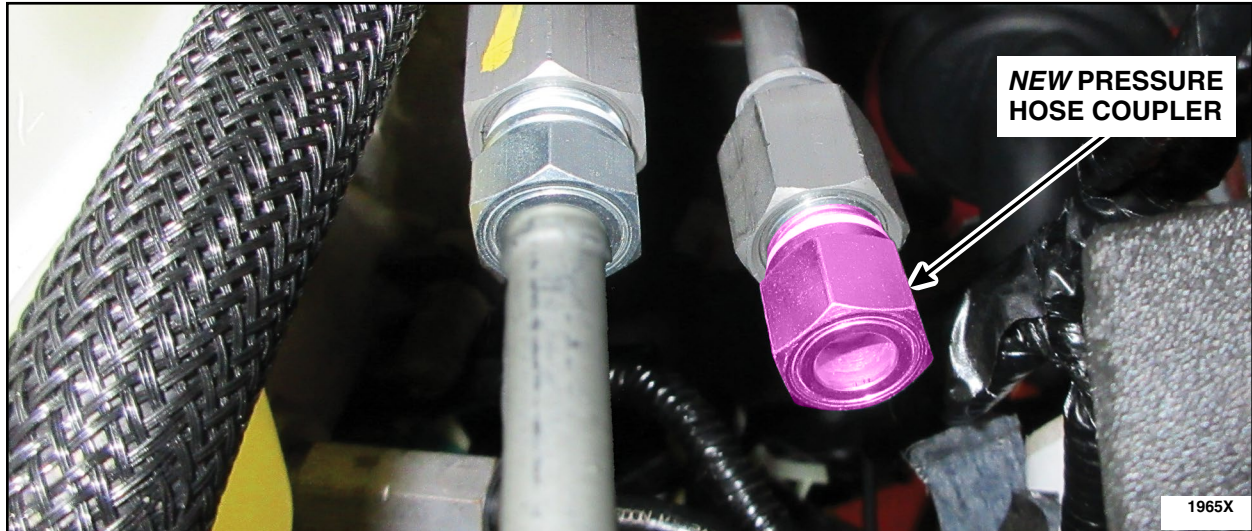

FIGURE 26
6. Install the *new* pressure hose coupler into the Hydro-Boost junction. See Figure 26.